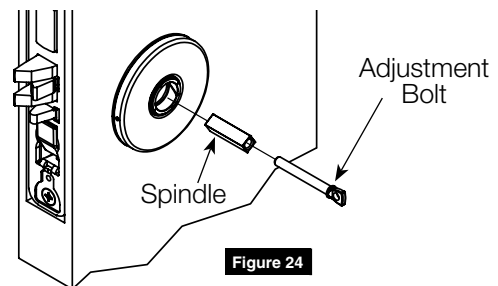

Figure 24
5. Insert adjustment bolt and spindle. Tighten bolt finger-tight and then loosen a few turns. (Figure 24)